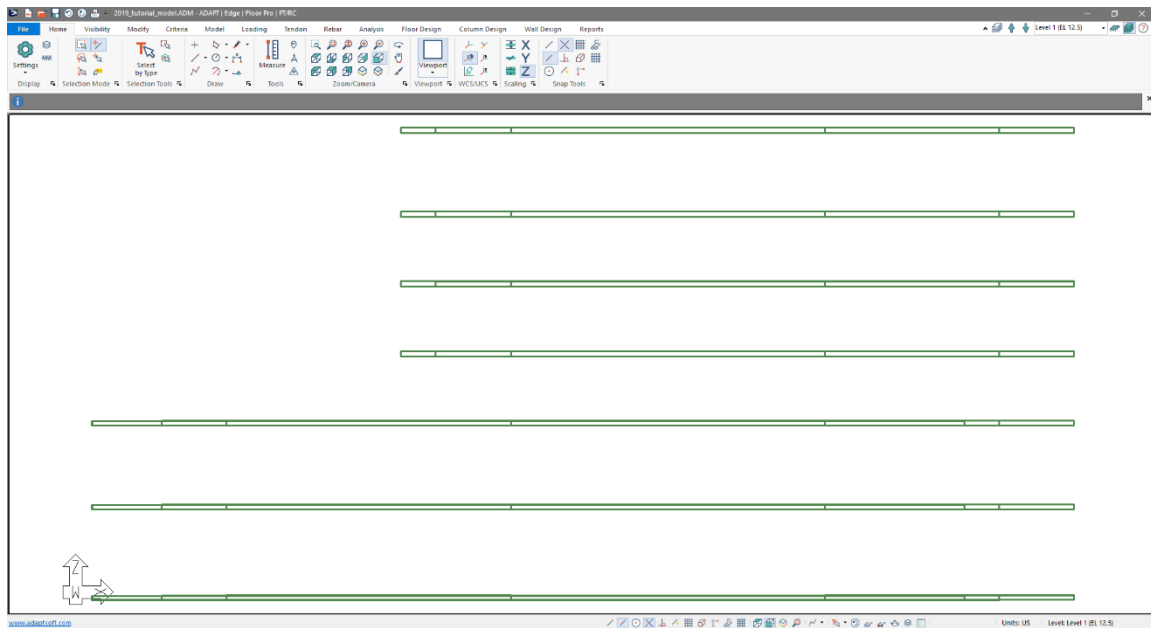

Figure 7-2
- Click on the *Front View*  icon in the **Bottom Quick Access Toolbar**. This will bring you to the view of the model shown in **FIGURE 7-2**.